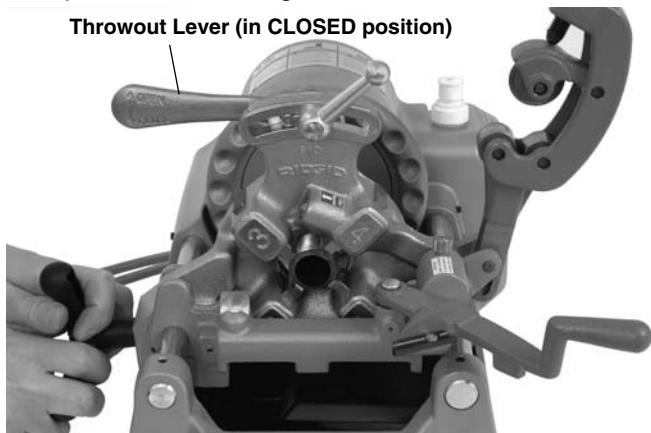

Figure 13 – Threading Pipe with No. 610 Die Head
2. Close the throw out lever on the die head (toward the operator, see *Figure 13*).